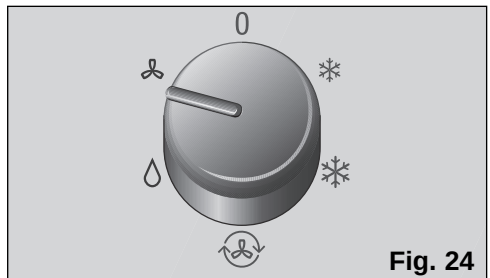

Fig. 24
- ❑ Set the control knob to the air-purification function 🌀 **Fig. 24**.